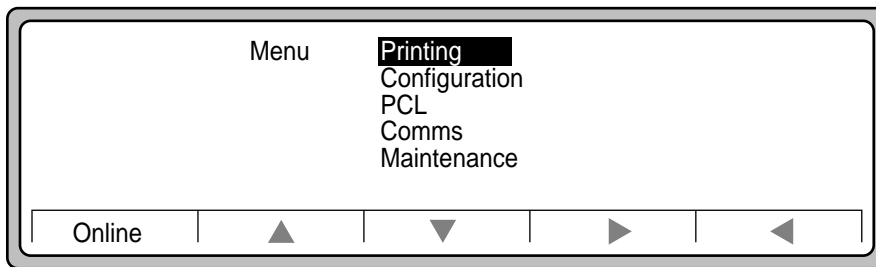

Figure 3-17 Menu options
- Press Menu on the Main Screen to display the Menu options, shown in Figure 3-17.